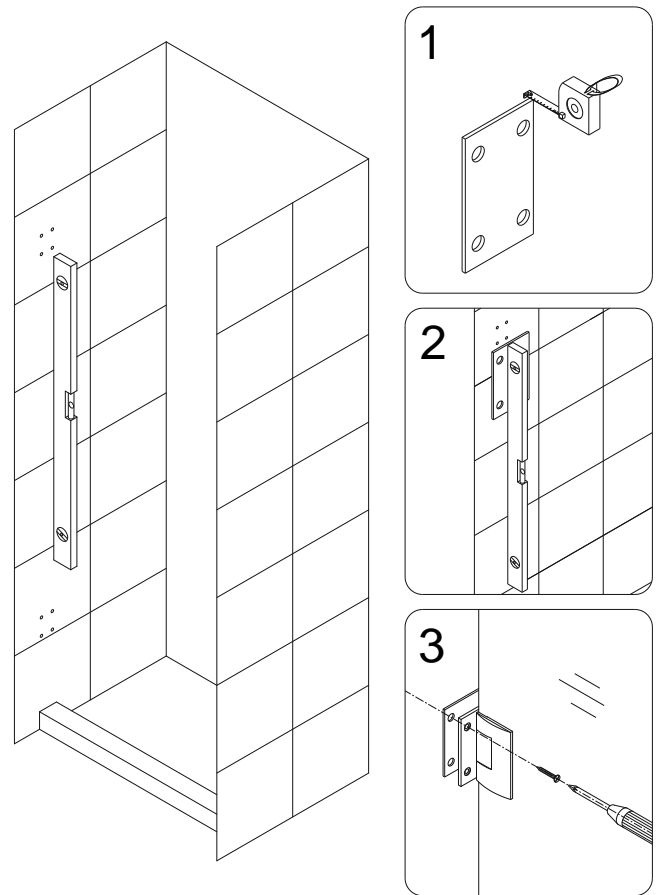

Fig. 4
3. Hold the door in place and mark the drill holes for both **Hinges (05)** on the wall. Set the door aside and use a  $\text{Ø } 1/4\text{'}$  drill bit to drill holes up to the stud. Drill 1/8" pilot holes into the stud if necessary.
**The included PVC hinge spacers (31) are provided to compensate for minor out-of-plumb wall conditions. Use only as necessary as their use could compromise the opening size of your shower. Please see Fig 4 for an installation example\*.**
4. Place the **Door Glass (01)** back onto the threshold along with the 5/8" spacers and attach both hinges to the wall with two **Countersunk screws ST5×70 (04)** on the hinge from outside of the shower. Then open the door and install the remaining screws to both wall plates from the inside.
**(Fig 3 and Fig 4)**